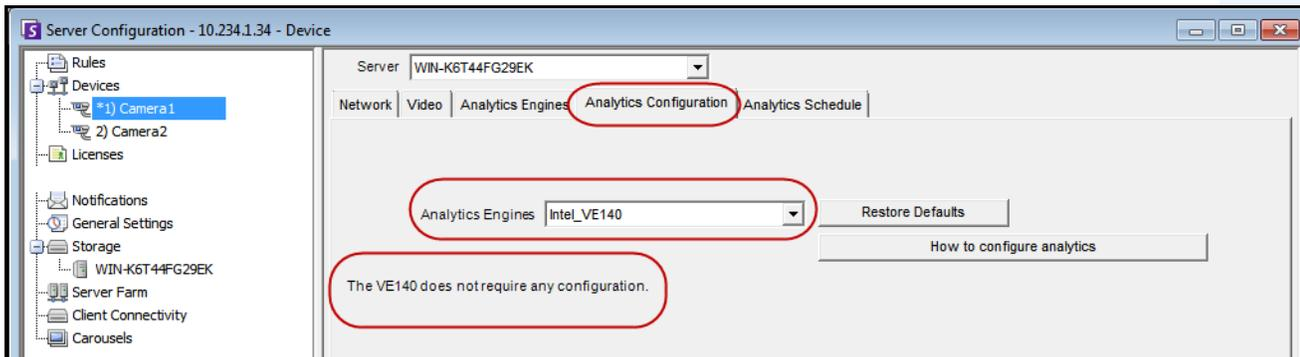

Figure 7. Analytics Configuration tab for VE140
5. Click **OK** to save settings. No configuration is required for the VE140 from the **Analytics Configuration** tab (Figure 7).